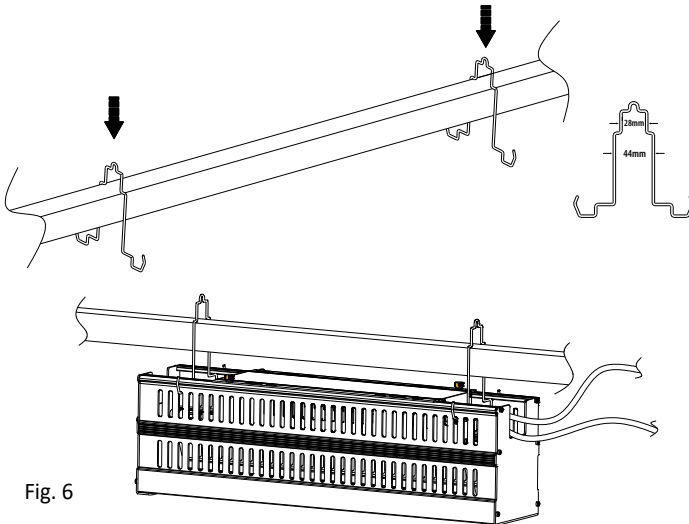

Fig. 6
1) With fixture hanger A (part E), as Fig. 6. Fixture hanger B (Part F) is not compliant for this mounting way.